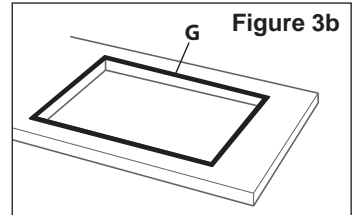

Figure 3b
- Stretch gasket “G” over the edge of the hole made, being careful to overlay the junction edges (fig. 3b).